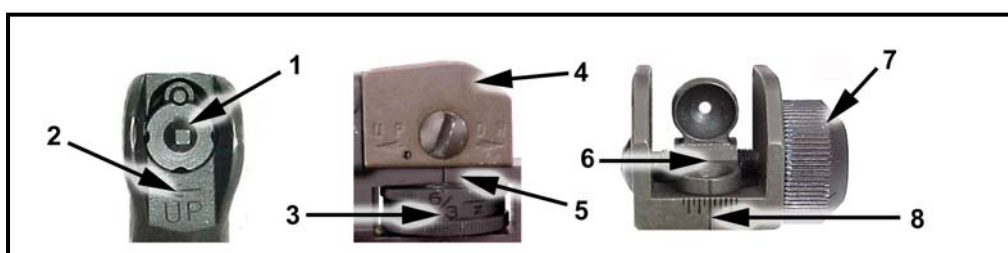

Figure 2-8. M16A4 MWS mechanical zero.
(1) **Mechanically Zeroing the M16A4.** Mechanically zeroing the weapon is only necessary when the weapon zero is questionable, the weapon is newly assigned to the unit, or the weapon sights have been serviced. If necessary, the soldier should mechanically zero the weapon as follows (Figure 2-8):